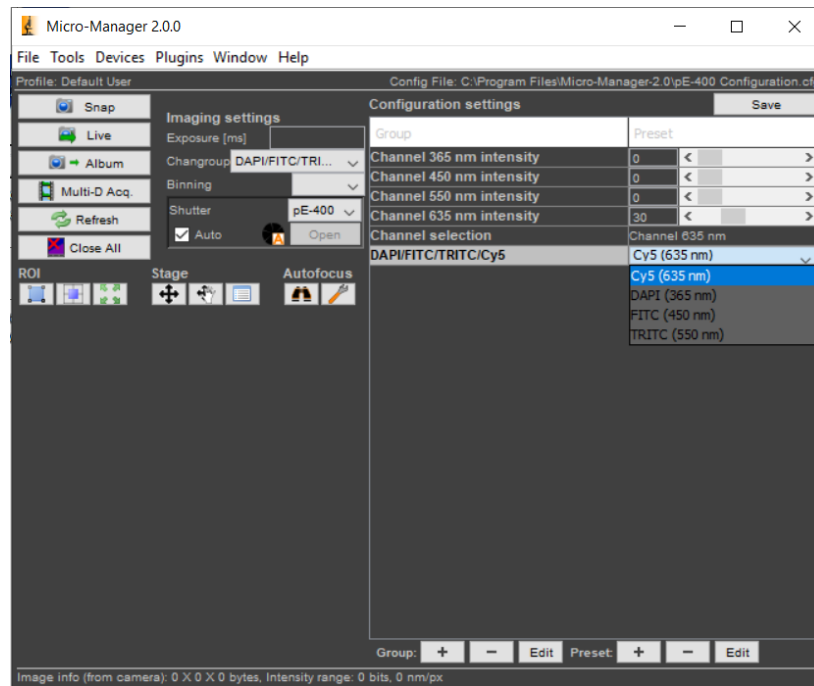

Figure 21: For a multi-dimensional acquisition, presets for channel selection and intensity are now available for each fluorophore
- Repeat steps 2a-c to add the remaining fluorophores, referencing Section 9.1 LED Labels for the corresponding channel names. When complete, the Preset dropdown menu on the main screen appears as in Figure 21.